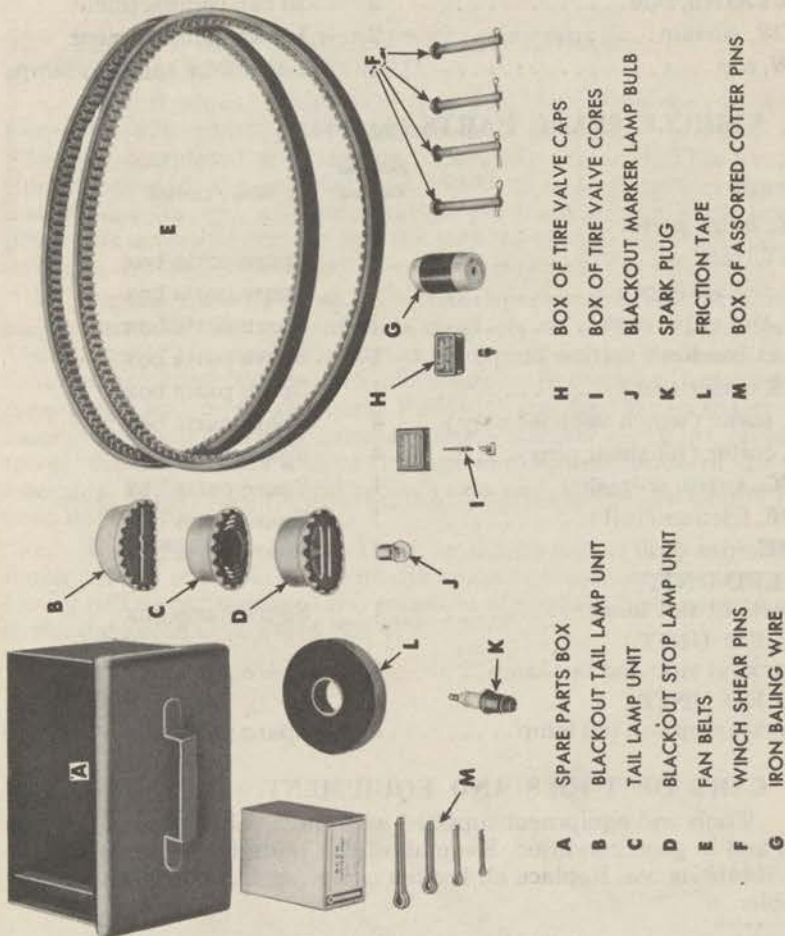

Figure 45—Vehicle Spare Parts
30. VEHICLE SPARE PARTS (fig. 45).